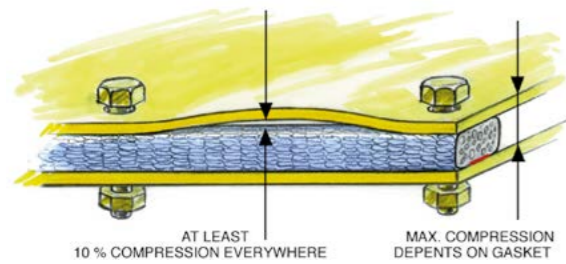

Figure 24.1: The pressing force on the panels of the housing is minimized.
- Level III A 26 32 Seams (Fig. 24.1)